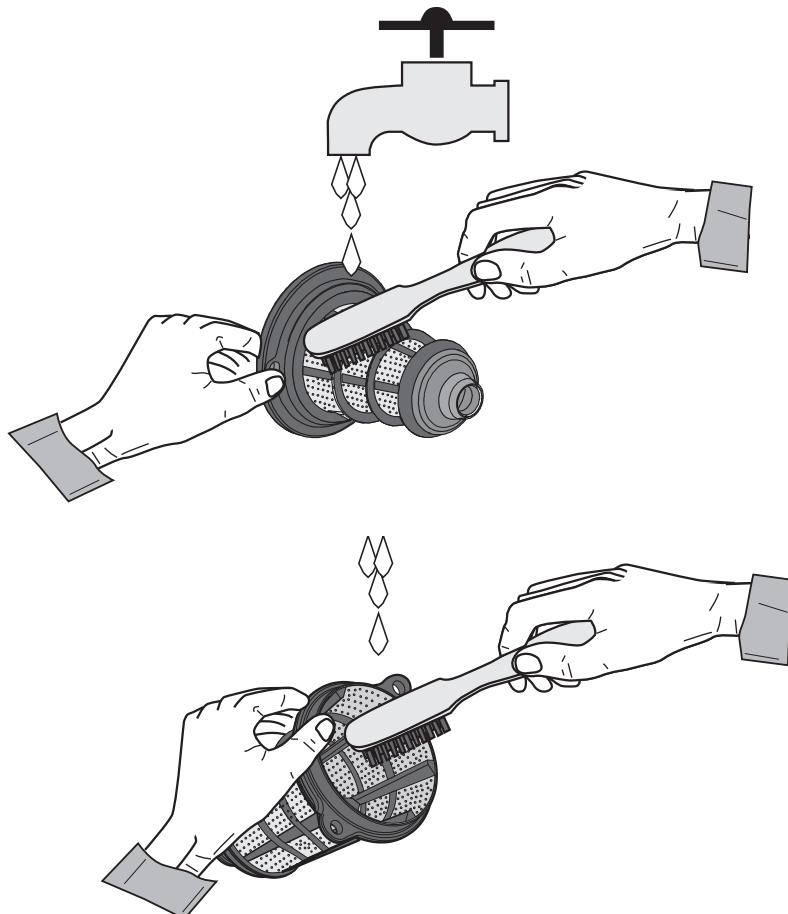

Fig. 5
- 1 Use a brush (Fig. 5) to clean the sieve both inside and outside and the auger.